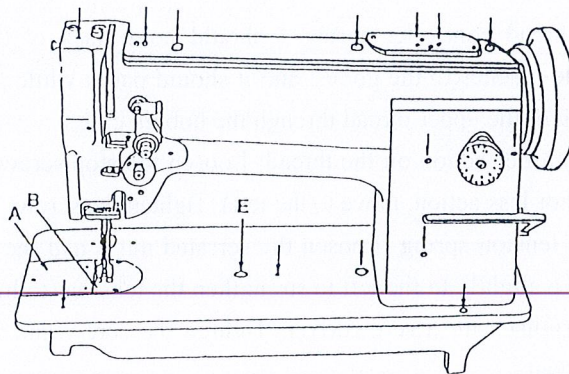

Fig.2
The sewing hook and its mechanism are protected by a safety clutch. If it should become necessary to re-engaged the safety clutch, depress button (E, Fig.2) in the bed plate of the machine. At the same time, turn the machine pulley until the locking mechanism re-engages the drive shaft beneath the bed of the machine. Open bed slide plate and rock the machine pulley back and forth to remove any foreign matter may have lodged itself in the hook. Do not use any sharp-edged tools, etc., lest the hook be damaged.
1. Depress the button (E, Fig.2) in the bed plate of the machine with your left hand. At the same time, turn the machine pulley strongly so that the safety clutch disengages.
2. Lay down the machine head toward the other side. Hold the safety clutch [(left) (1) and turn the safety clutch (right) (2) until you can see the screw (4) through the hole (3)]
3. To strengthen the tension of spring (5), turn the screw (4) to the right, while to lighten the tension, turn the screw to the left.
4. Upon completion of adjustment , depress the button (E, Fig.2). At the same time, turn the machine pulley until the safety clutch re-engages.